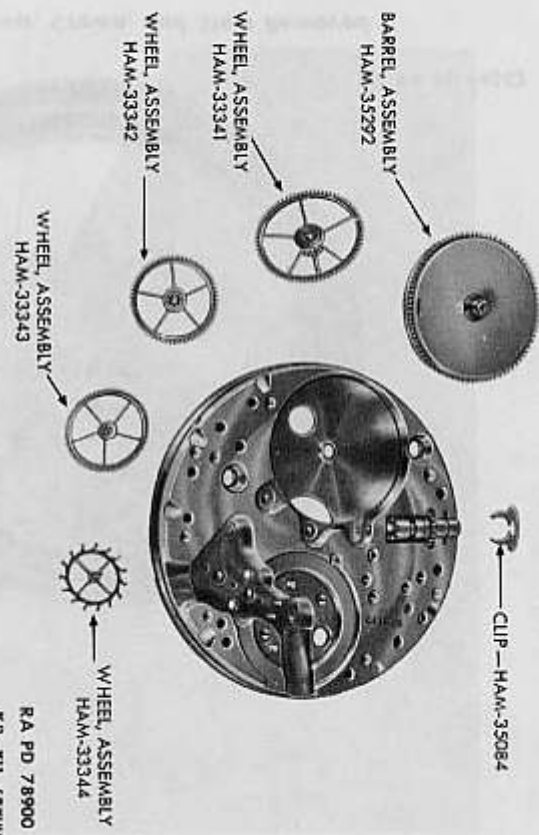

Figure 65 — Hamilton Pocket Watch — Train Wheels and Barrel Assembly Removed
o. Remove Train Wheels and Barrel Assemblies (fig. 65). Using tweezers, remove the center, third, fourth, and escape wheels. Remove barrel assembly. Insert end of screwdriver in slot of winding arbor clip, place end of index finger over clip, and lift screwdriver upward to remove clip.
c. Replace Train Wheels and Barrel Assembly (fig. 65). Place barrel assembly on the pillar plate. Replace escape, fourth, third, and center wheels.